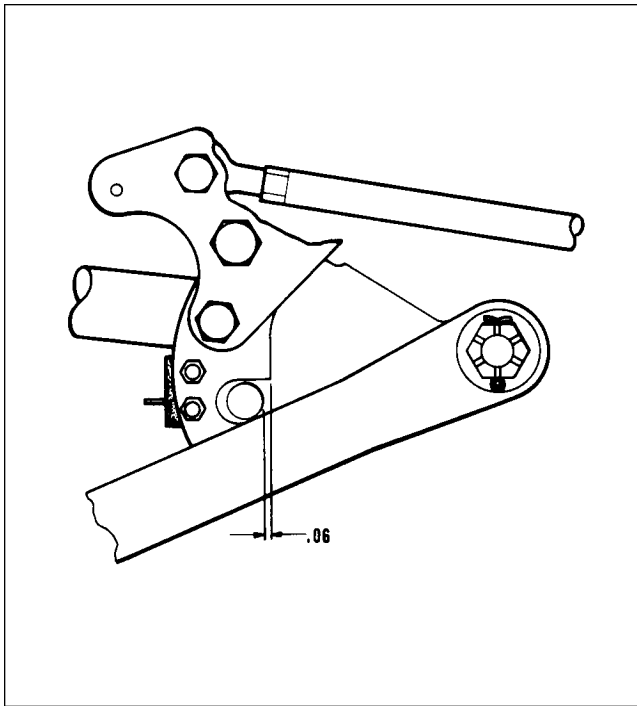

Figure 7-12. Adjustment of Nose Gear Down Limit Switch
- b. The down limit switch should actuate only after the leading edge of the downlock hook, when moving to the locked position, has passed the downlock roller by .06 of an inch. (Refer to Figure 7-12.) Position the hook at this location in relation to the roller by moving the actuator piston manually toward the up position. The downlock spring may be disconnected, if desired.